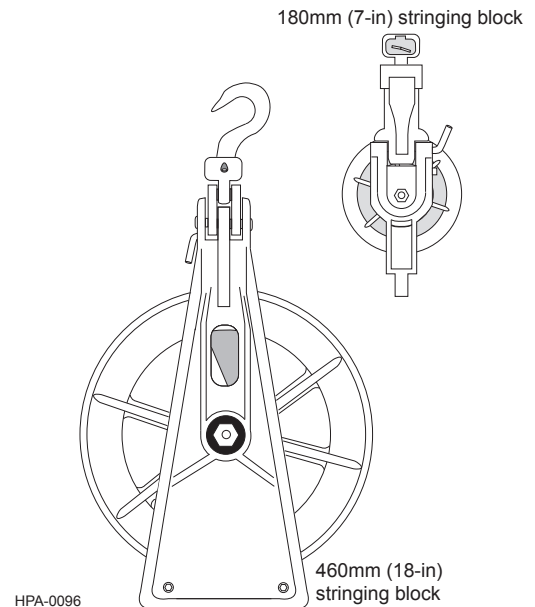

Figure 12
- For horizontal or vertical deviations  $\geq$  10-degrees, use stringing blocks with a minimum diameter of 460 mm (18 in) (Figure 12). This also applies at the first roller from the reel and the final roller prior to the puller.